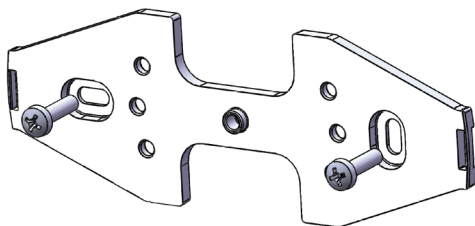

Figure 11: Mounting plate and screws
3. Fix the mounting plate using the mounting screws included with the sensor kit (→ Figure 11). Make sure that the raised hole in the center of the mounting plate faces towards you.